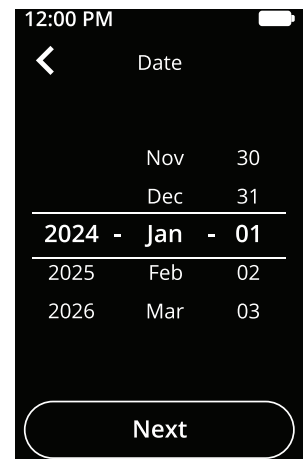

Figure 36
- Set the date to the current date and tap **Next** (see Figure 36).